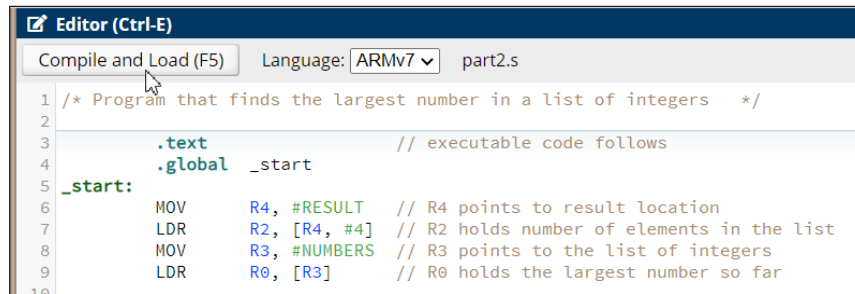
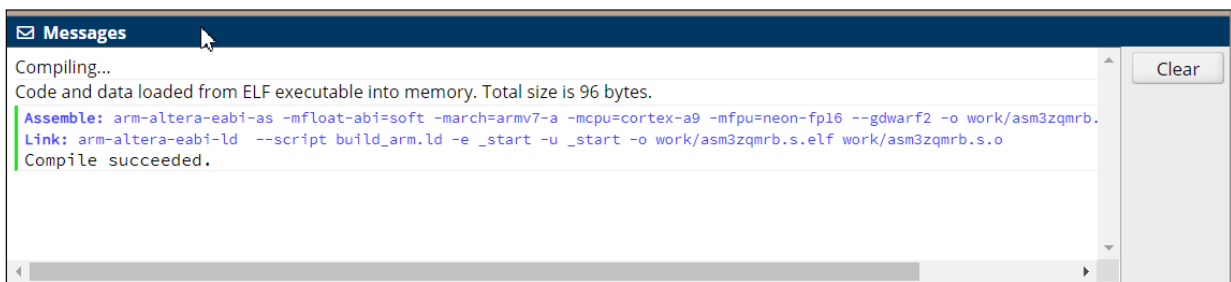

Figure 5: Compiling and loading the program.
Figure 6: The Messages pane.
- As indicated in Figure 5, click on the `Compile and Load` command to *assemble* your program and *load* it into the *memory* that is part of the computer system being simulated within the *CPULator* tool. You should see the message displayed in Figure 6, in the *Messages* pane, which reports a successful compilation result. If not, then you may have inadvertently introduced an error in the program code; fix any such errors and recompile.